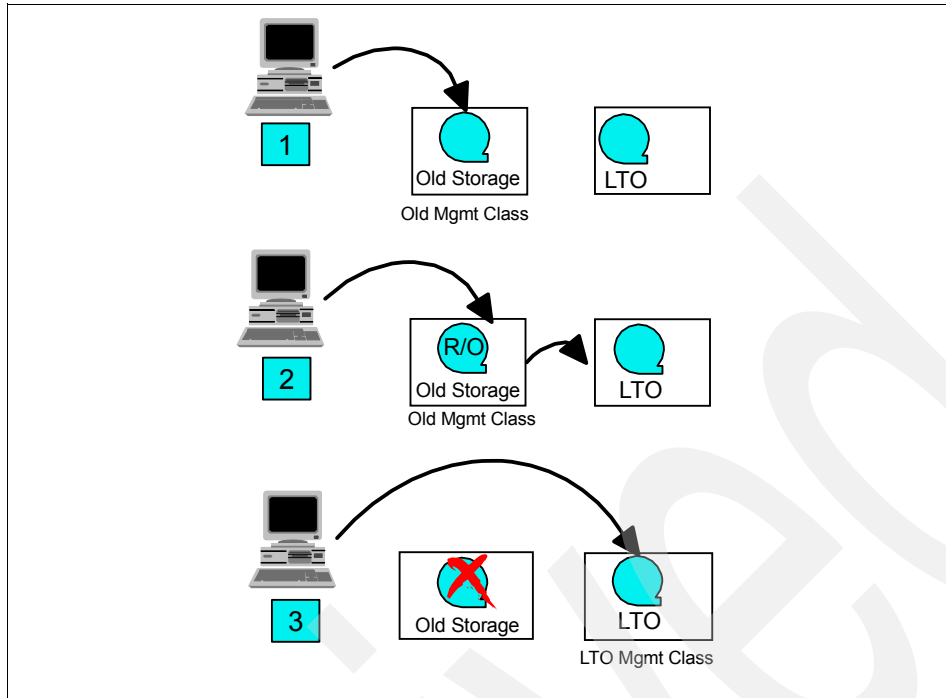

Figure 5-12 Migrating to LTO as sequential primary copy
2. Create an LTO sequential storage pool and/or copy storage pool using the new LTO device class (label 1 in Figure 5-12 on page 221).
3. Modify the NEXTSTGP00L parameter of the old storage pool to point to the new LTO storage pool (label 2 in Figure 5-12 on page 221).
7. Once the old storage pool is emptied, modify the BACKUP and ARCHIVE COPY GROUP of each management class to point the DESTINATION to the new LTO Storage pool (label 3 in Figure 5-12).